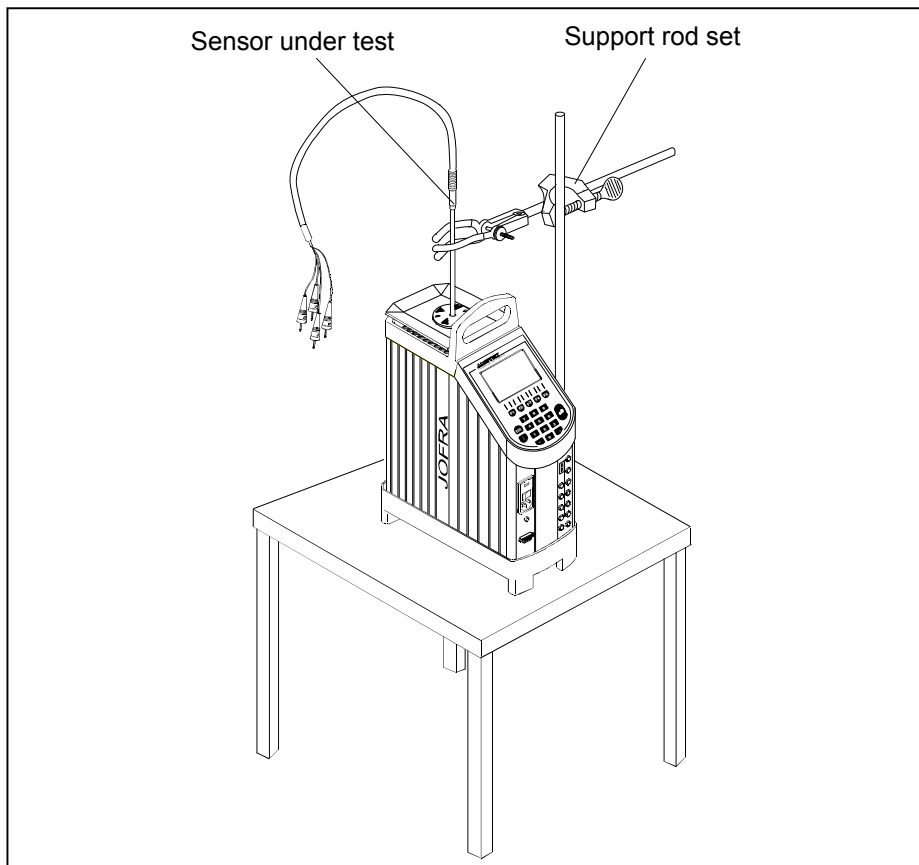

Fig. 2b
- ⑨ Place the sensor to be calibrated vertically into the well. It is recommended to use the optional support rod set for a correct position during calibration. See fig. 2b.